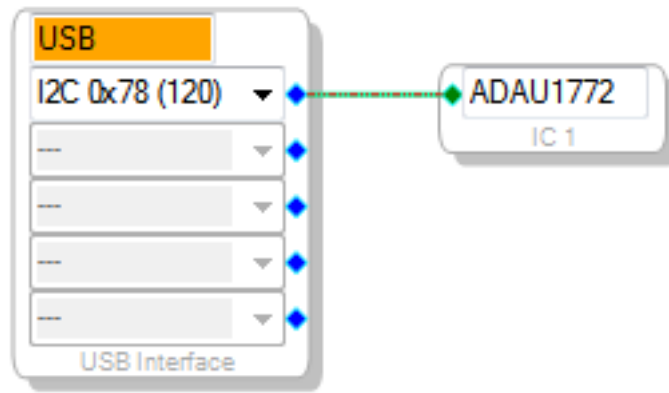

Figure 16. Connecting the USB Interface to an ADAU1772 IC
To use the USB interface to communicate with the target integrated circuit (IC), connect it by clicking and dragging a wire between the blue pin of the USBi and the green pin of the IC (see Figure 16). The corresponding drop-down box of the USBi automatically fills with the default mode and channel for that IC.